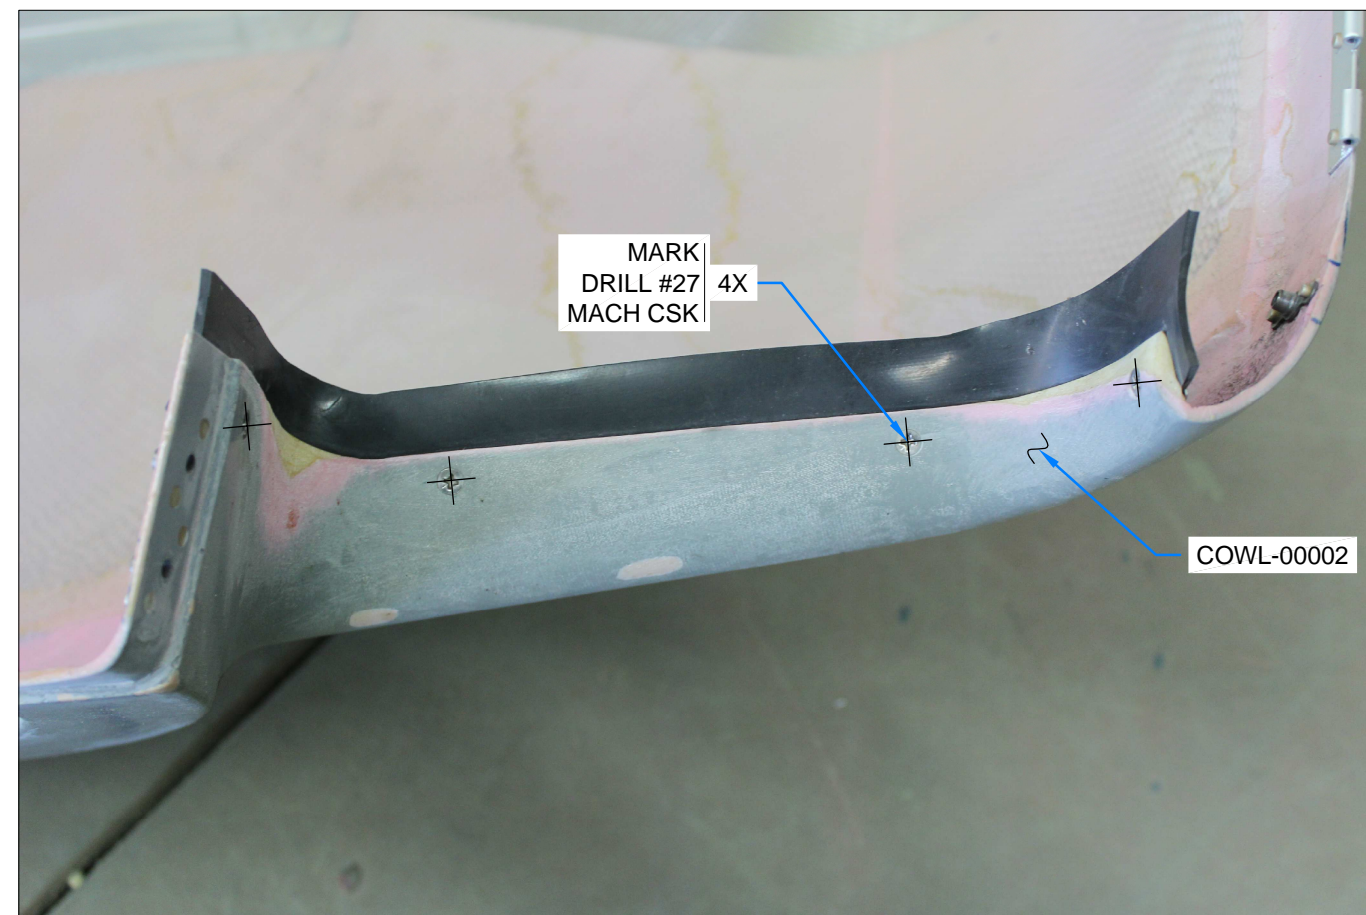

FIGURE 2: DRILL BOTTOM COWL
Step 1: Clamp the CB-00032N and CB-00032O Cowl Baffle Seals between the COWL-00002 Bottom Cowl and the CB-00036-L & -R Clamping Strips. See Figure 1 and Figure 2.